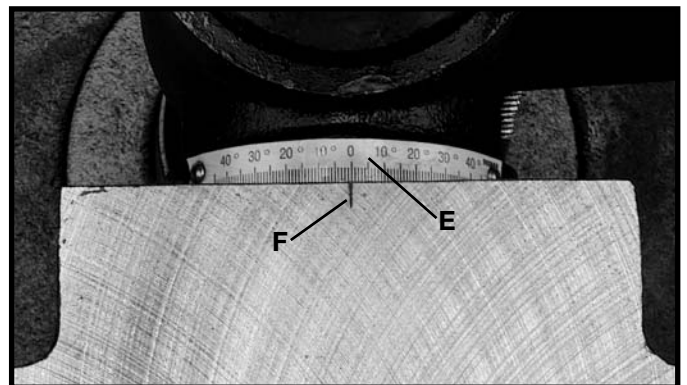

Fig. 23
5. A tilt scale (E) Fig. 23, is provided on the table bracket casting to indicate the degree of tilt. A witness line and zero mark (F) are also provided on the table to line up with the scale (E).